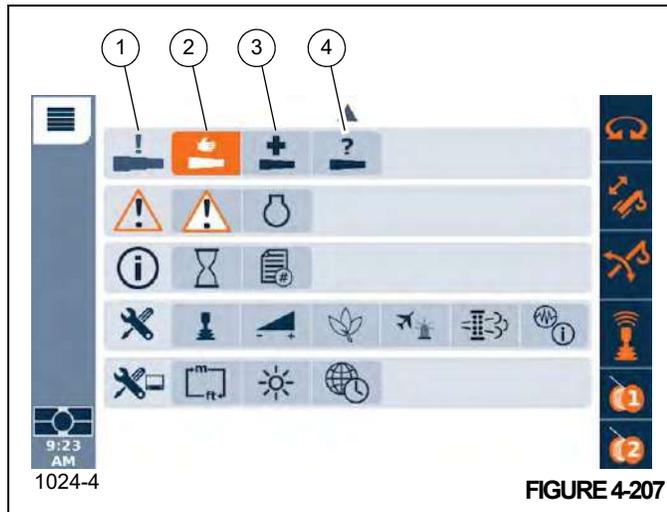

FIGURE 4-207
The Emergency Program Menu Group (1), (Figure 4-207) includes the following boom telescoping function icons:
- Manual Telescope Mode (2)
- Emergency Telescope Mode (3)
- Telescope Recovery Mode (4)